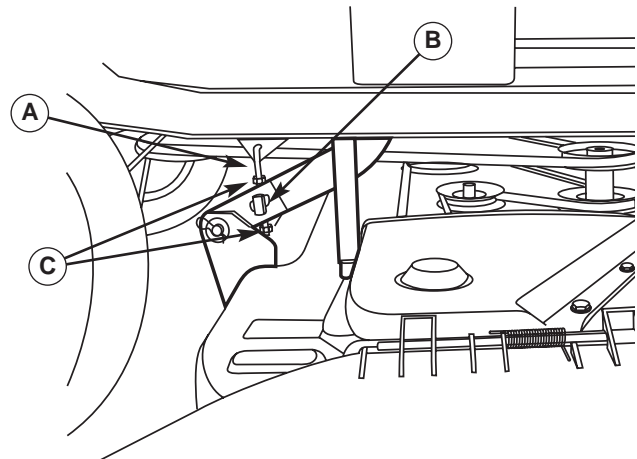

Figure 37. Side-to-Side Adjustment
6. See Figure 37. Side-to-side leveling is accomplished using the threaded rods (A, Figure 37) and trunnion (B) on the right and left rear sides of the mower deck. Loosen the jam nuts (C) and adjust the nuts up or down to adjust the mower level. When complete, tighten the jam nuts against the trunnion to lock the adjustment in place.